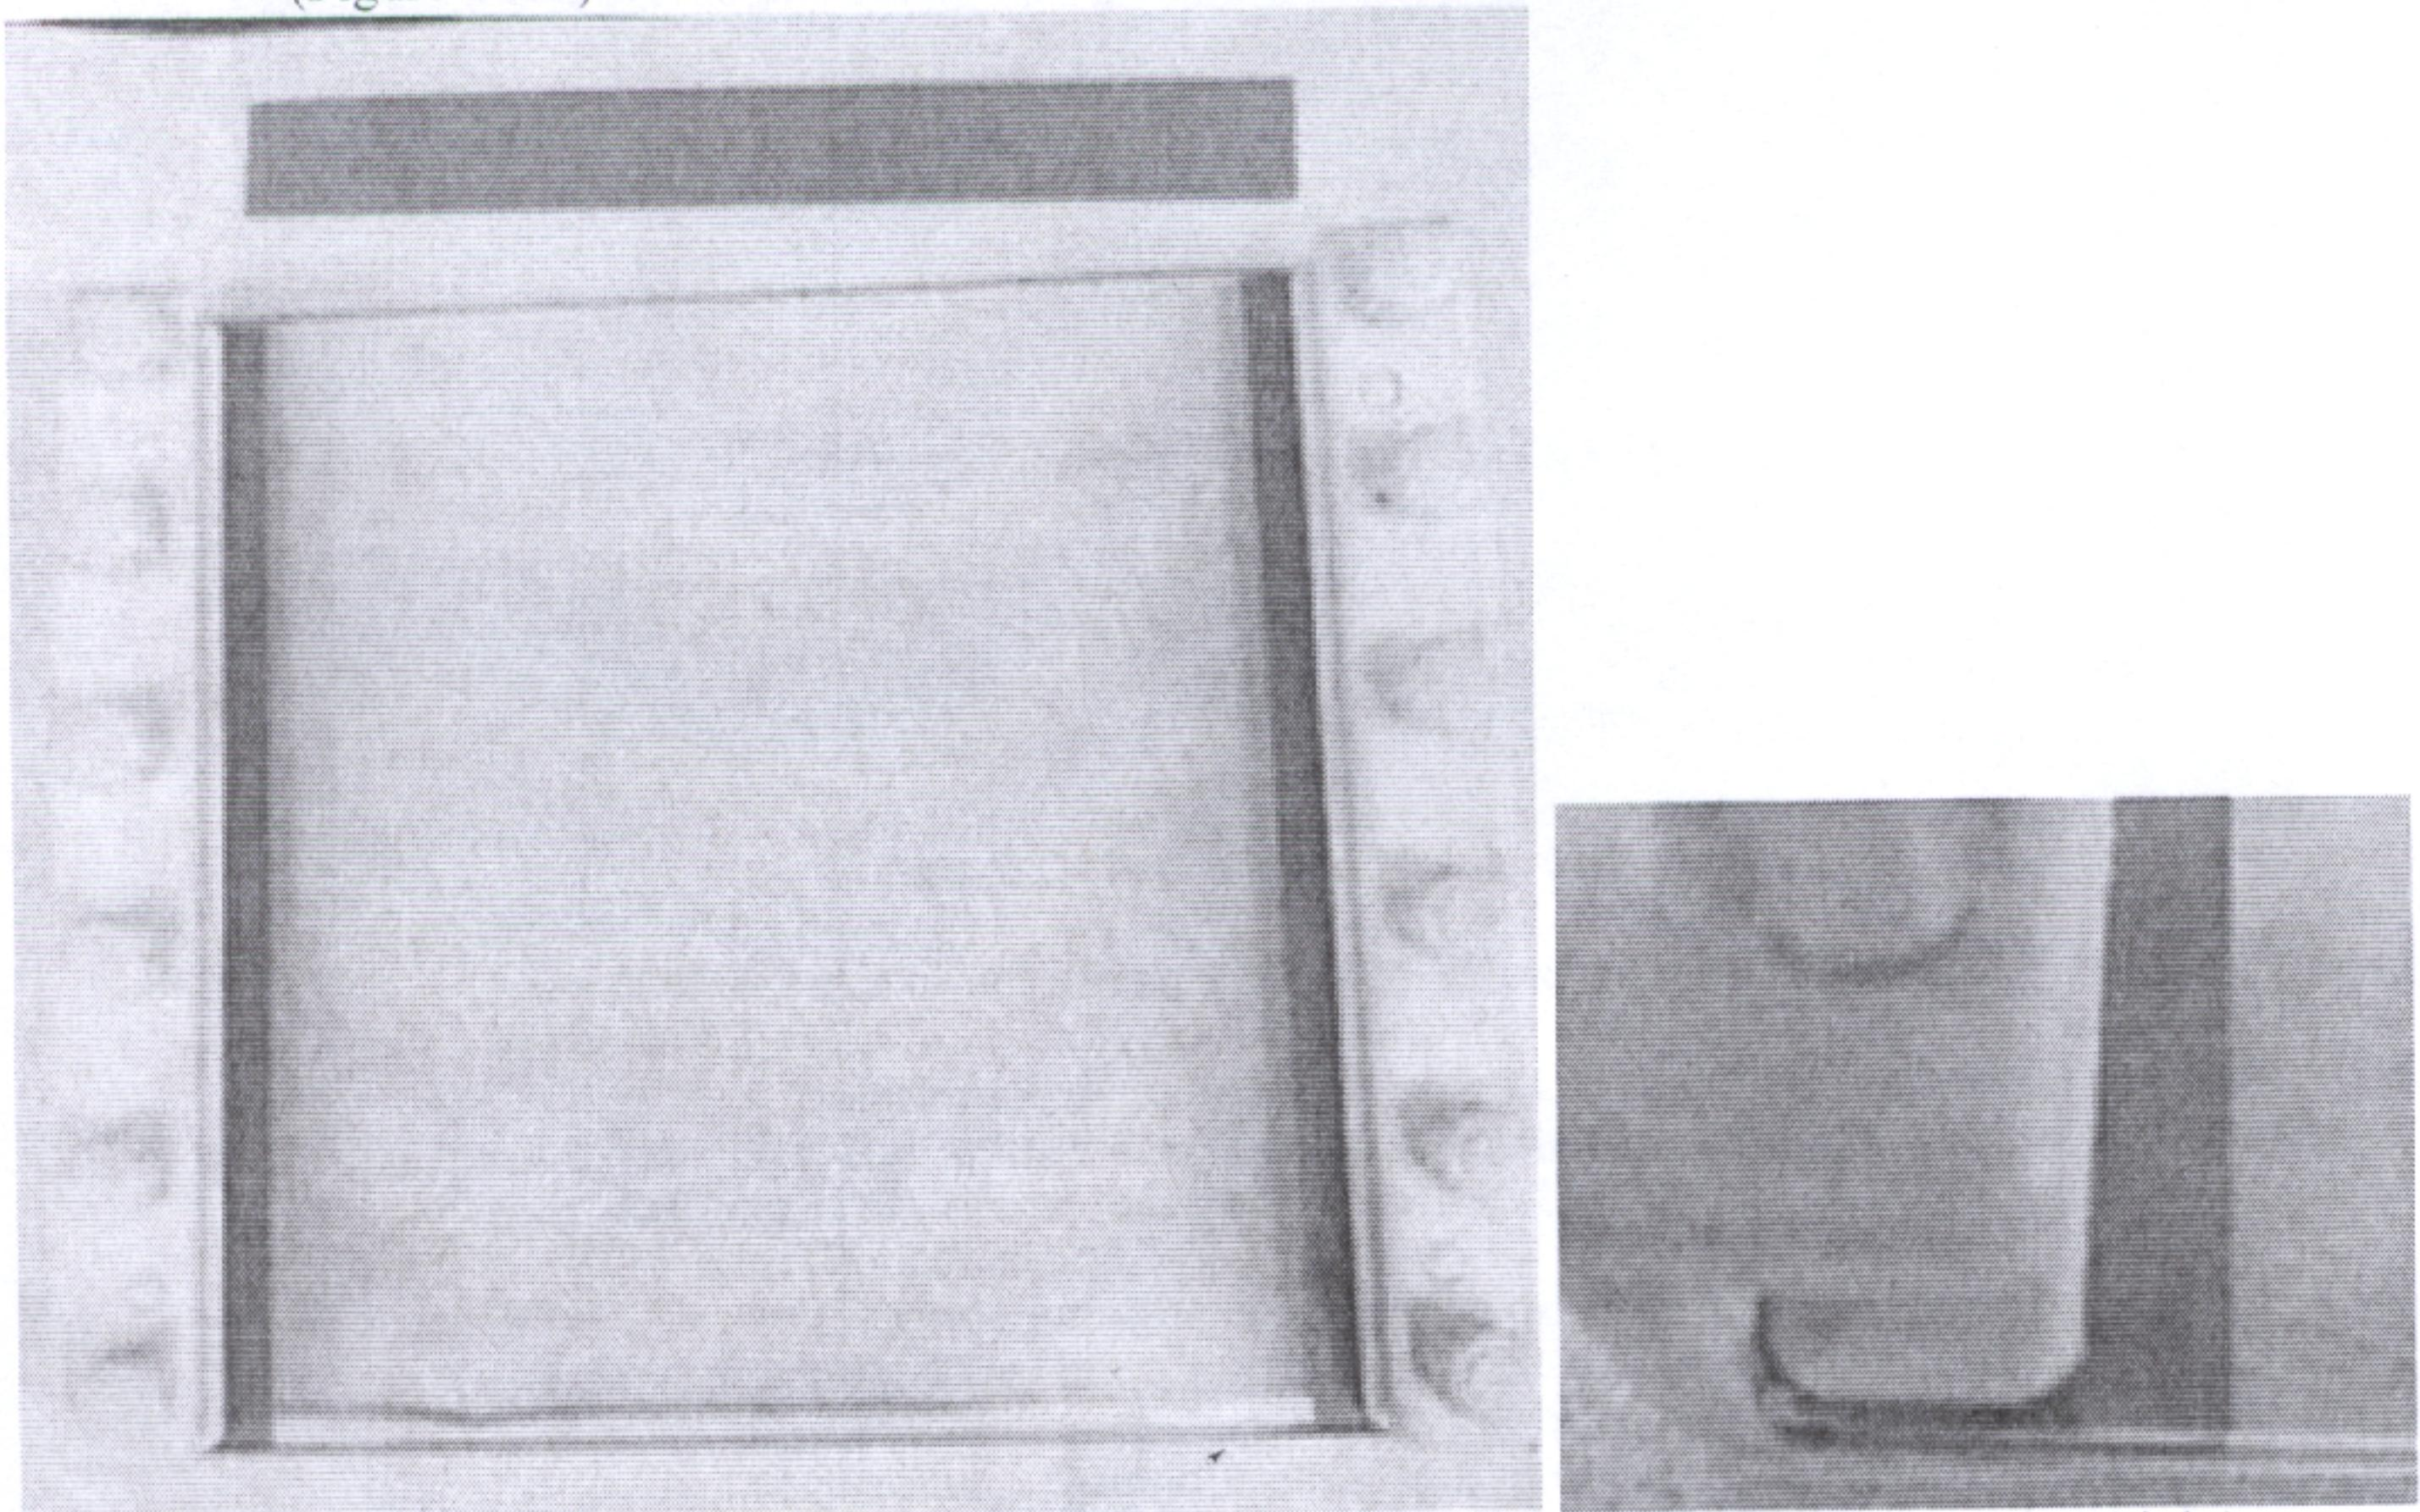

Figure 4. Assembly (left). Close up of corner spacer lineup with bottom edge (right).
- 3.3. Add the clamps on the sides with the spacers, slightly tighten the first and the last screws. Using the third, extra, spacer push the 2 spacers between the plates towards the edges against the clamps (Figure 4 left).
- 3.4. Adjust the plates, spacers, and clamps so that the clamps and plate are aligned at the top and bottom and so that the spacers are sealed against the clamps and down to the bottom of the plates (Figure 4 right).